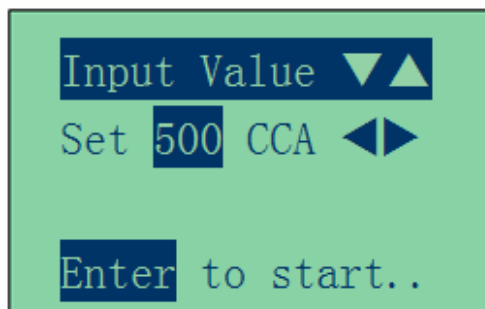
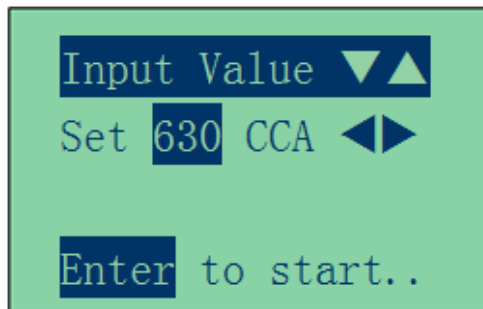

Figure 13
Figure 14
Press  key and the display will show: (Fig.13) below:
- To enter the value 630, press  key will increase the original value of 500 (Fig.13) by step of 100 units to 600. Likewise use  key to increase the last two digits (00) to 30 by step of 5 units for each pressing. (Fig. 14)